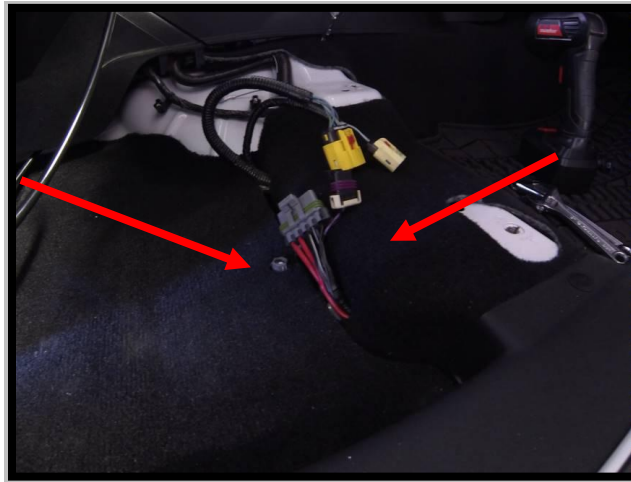

Figure 24
- 4-G) Reinstall the side panel and rocker panel. The two harnesses can be run under the carpet with the plugs positioned as shown in **Figure 24**.